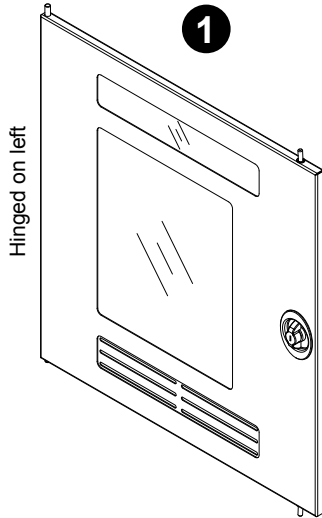

Figure 4B
1. Remove the door using the quick-release lever. **Figure 4B.**